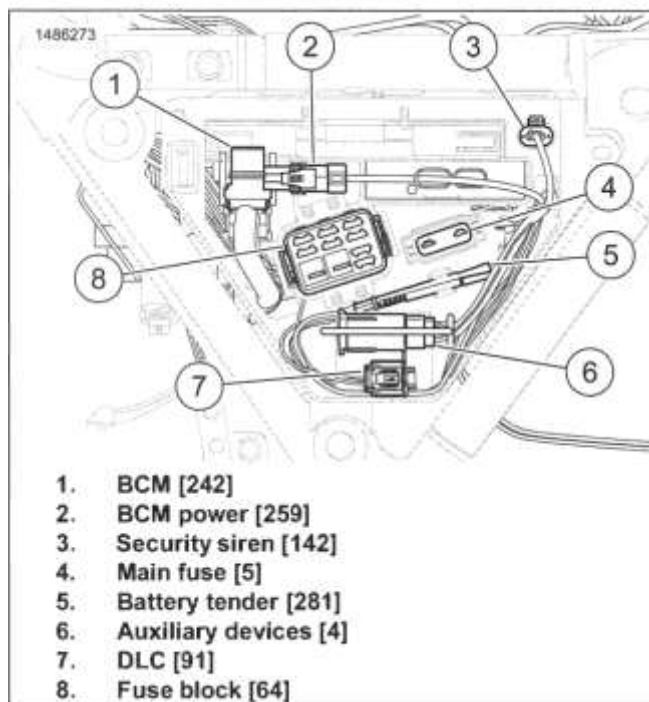

Figure 8-3. Behind Left Side Cover
4. See Figure 8-3. Remove main fuse (4).
1. See Figure 8-3. Install main fuse (4).